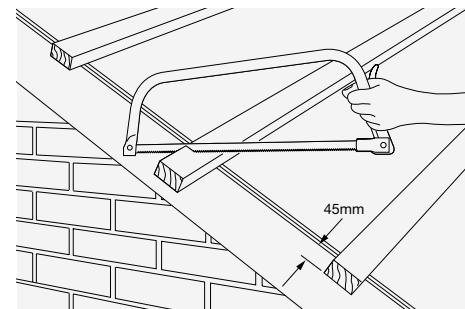

Fig. 1 – Position top course tiling battens
- 2 Saw tiling battens off square to overhang bargeboard or brickwork by 45mm and nail (Fig. 1).